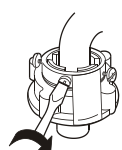

Figure 4
3. Fasten the four screws evenly. See to Figure 4.